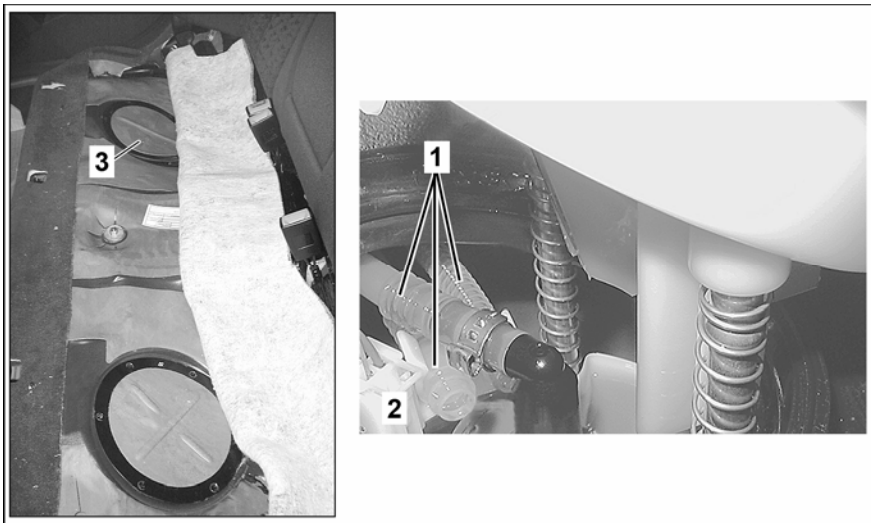

Figure 6
- “Saugmaster” fuel container listed in referenced WIS instructions: AR47.10-P-4001TB is not available in the US. Use only approved fuel extraction tank when removing fuel from a vehicle. Approved fuel extraction equipment can be obtained through the Mercedes-Benz Standard Service Equipment Program (SSEP) by calling (888) 458-4040.
- In order to gain access to fuel filter module assembly hoses (1 Figure 6) and electrical connector (2), it is necessary to gain access to fuel pump module assembly in the **right** side of fuel tank (located under **right** fuel tank access cover [3]).